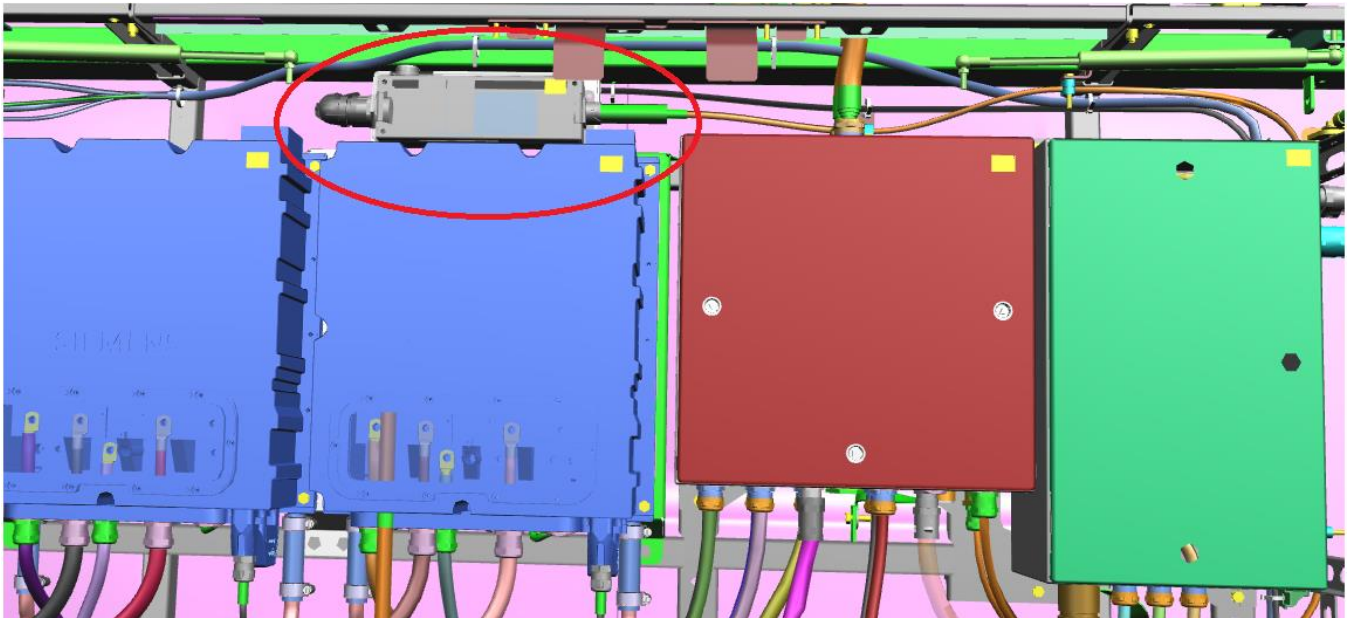

Figure 12: HV Isolation IMD Box Location
45. Locate HV Isolation IMD Box inside the Inverter Rack shown in Figure 12.